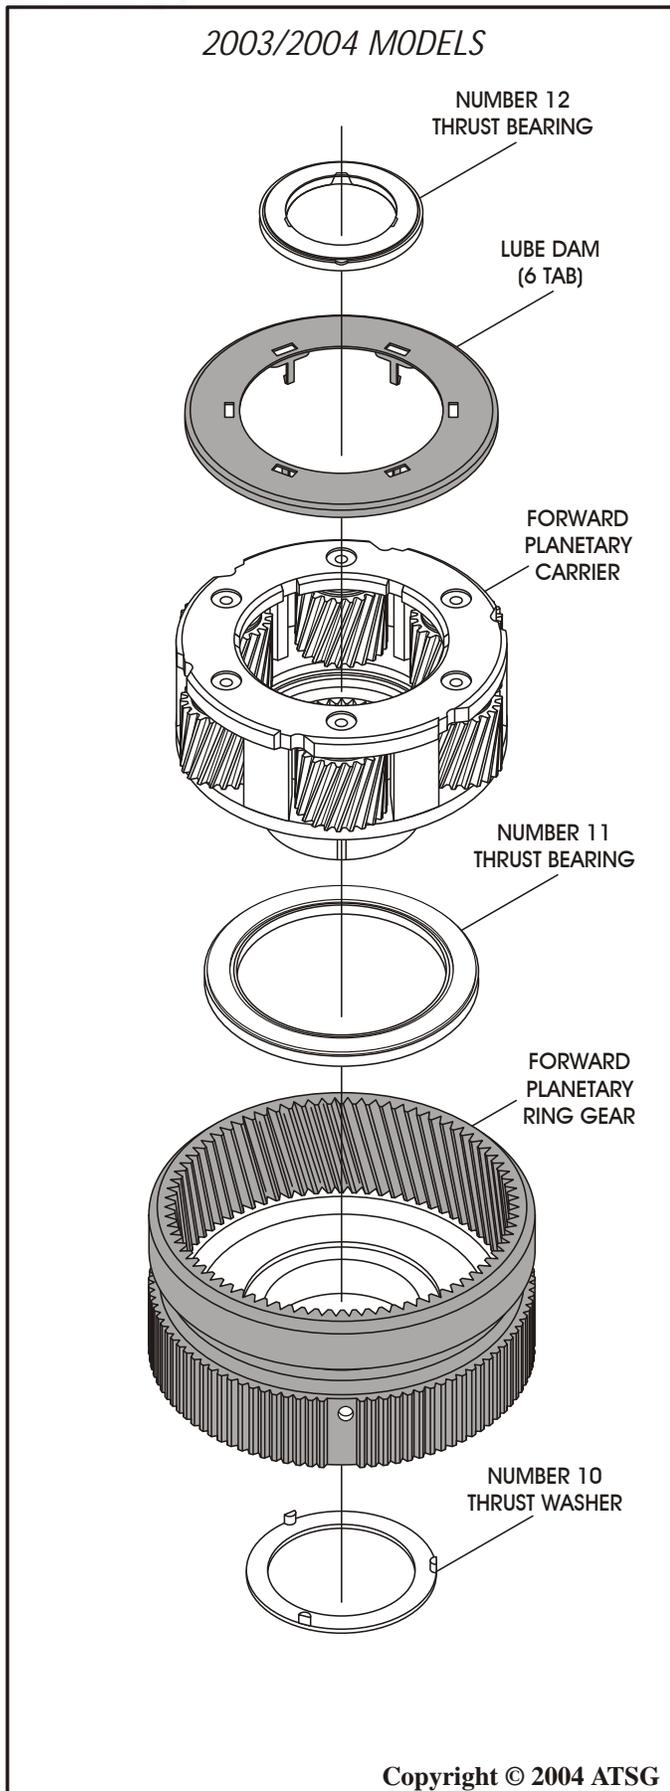
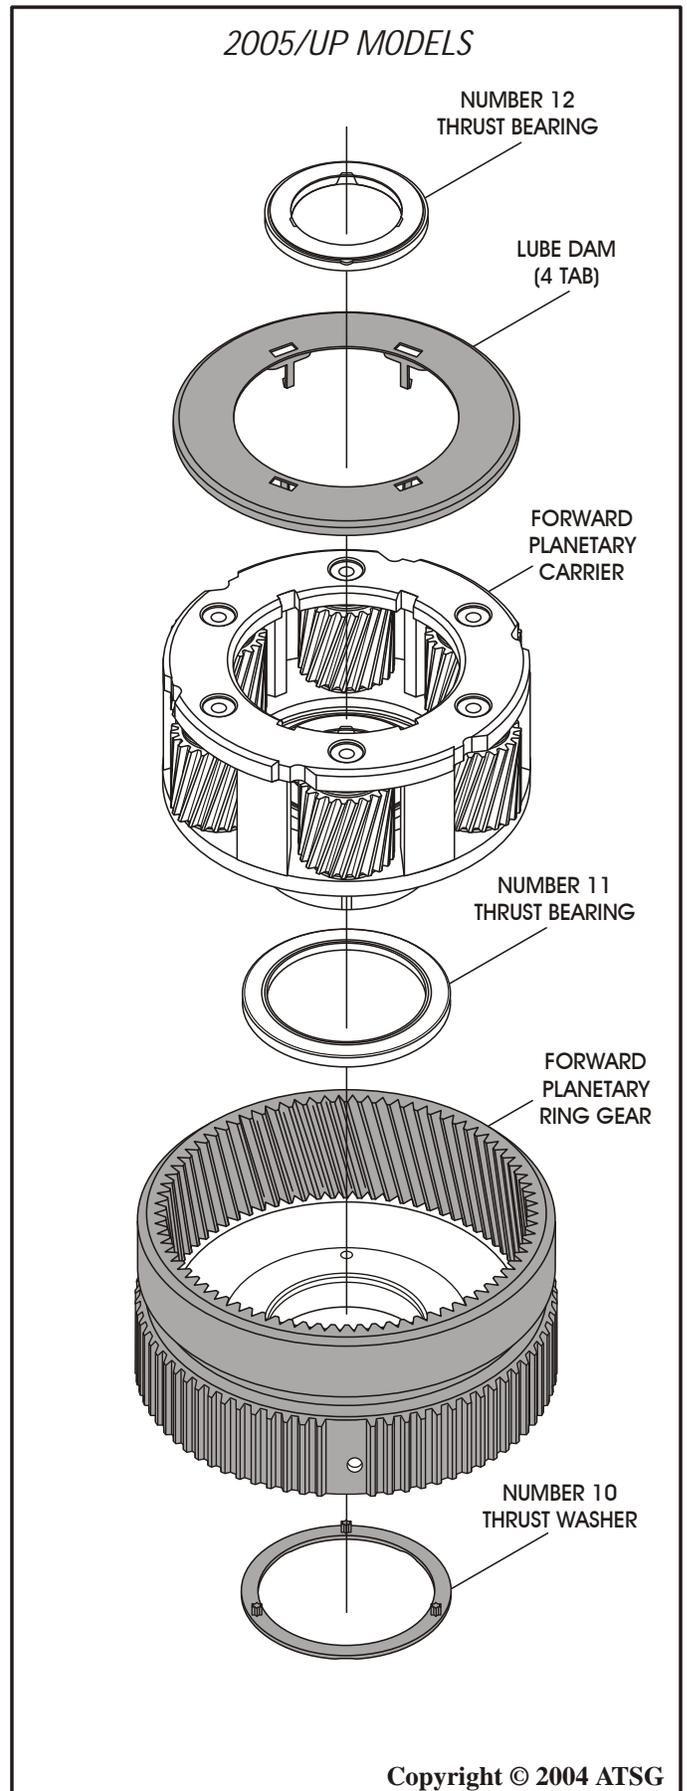

Figure 137
Figure 138
1. Disassemble the forward planetary carrier parts using Figure 137 or 138 as a guide.
NOTICE: Beginning at start of production for 2005 models, Ford Motor Co. redesigned the forward planetary system for increased durability. The 2003/2004 version is shown in Figure 137, and the 2005 version is shown in Figure 138, and the differences are as follows:
All of these changes are illustrated in Figure 137 and Figure 138.